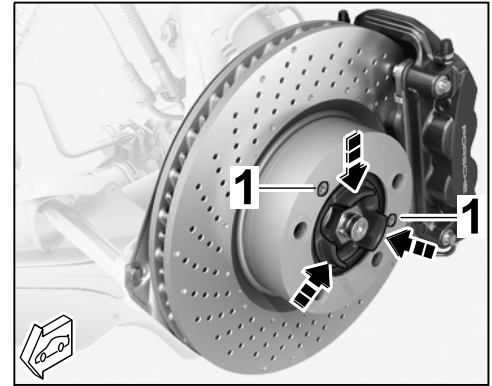

Figure 2
- 1.3 Clean the contact surface between the wheel spacer and brake disc hub to remove any dirt and corrosion (⇒ *Figure 2-arrows-*).